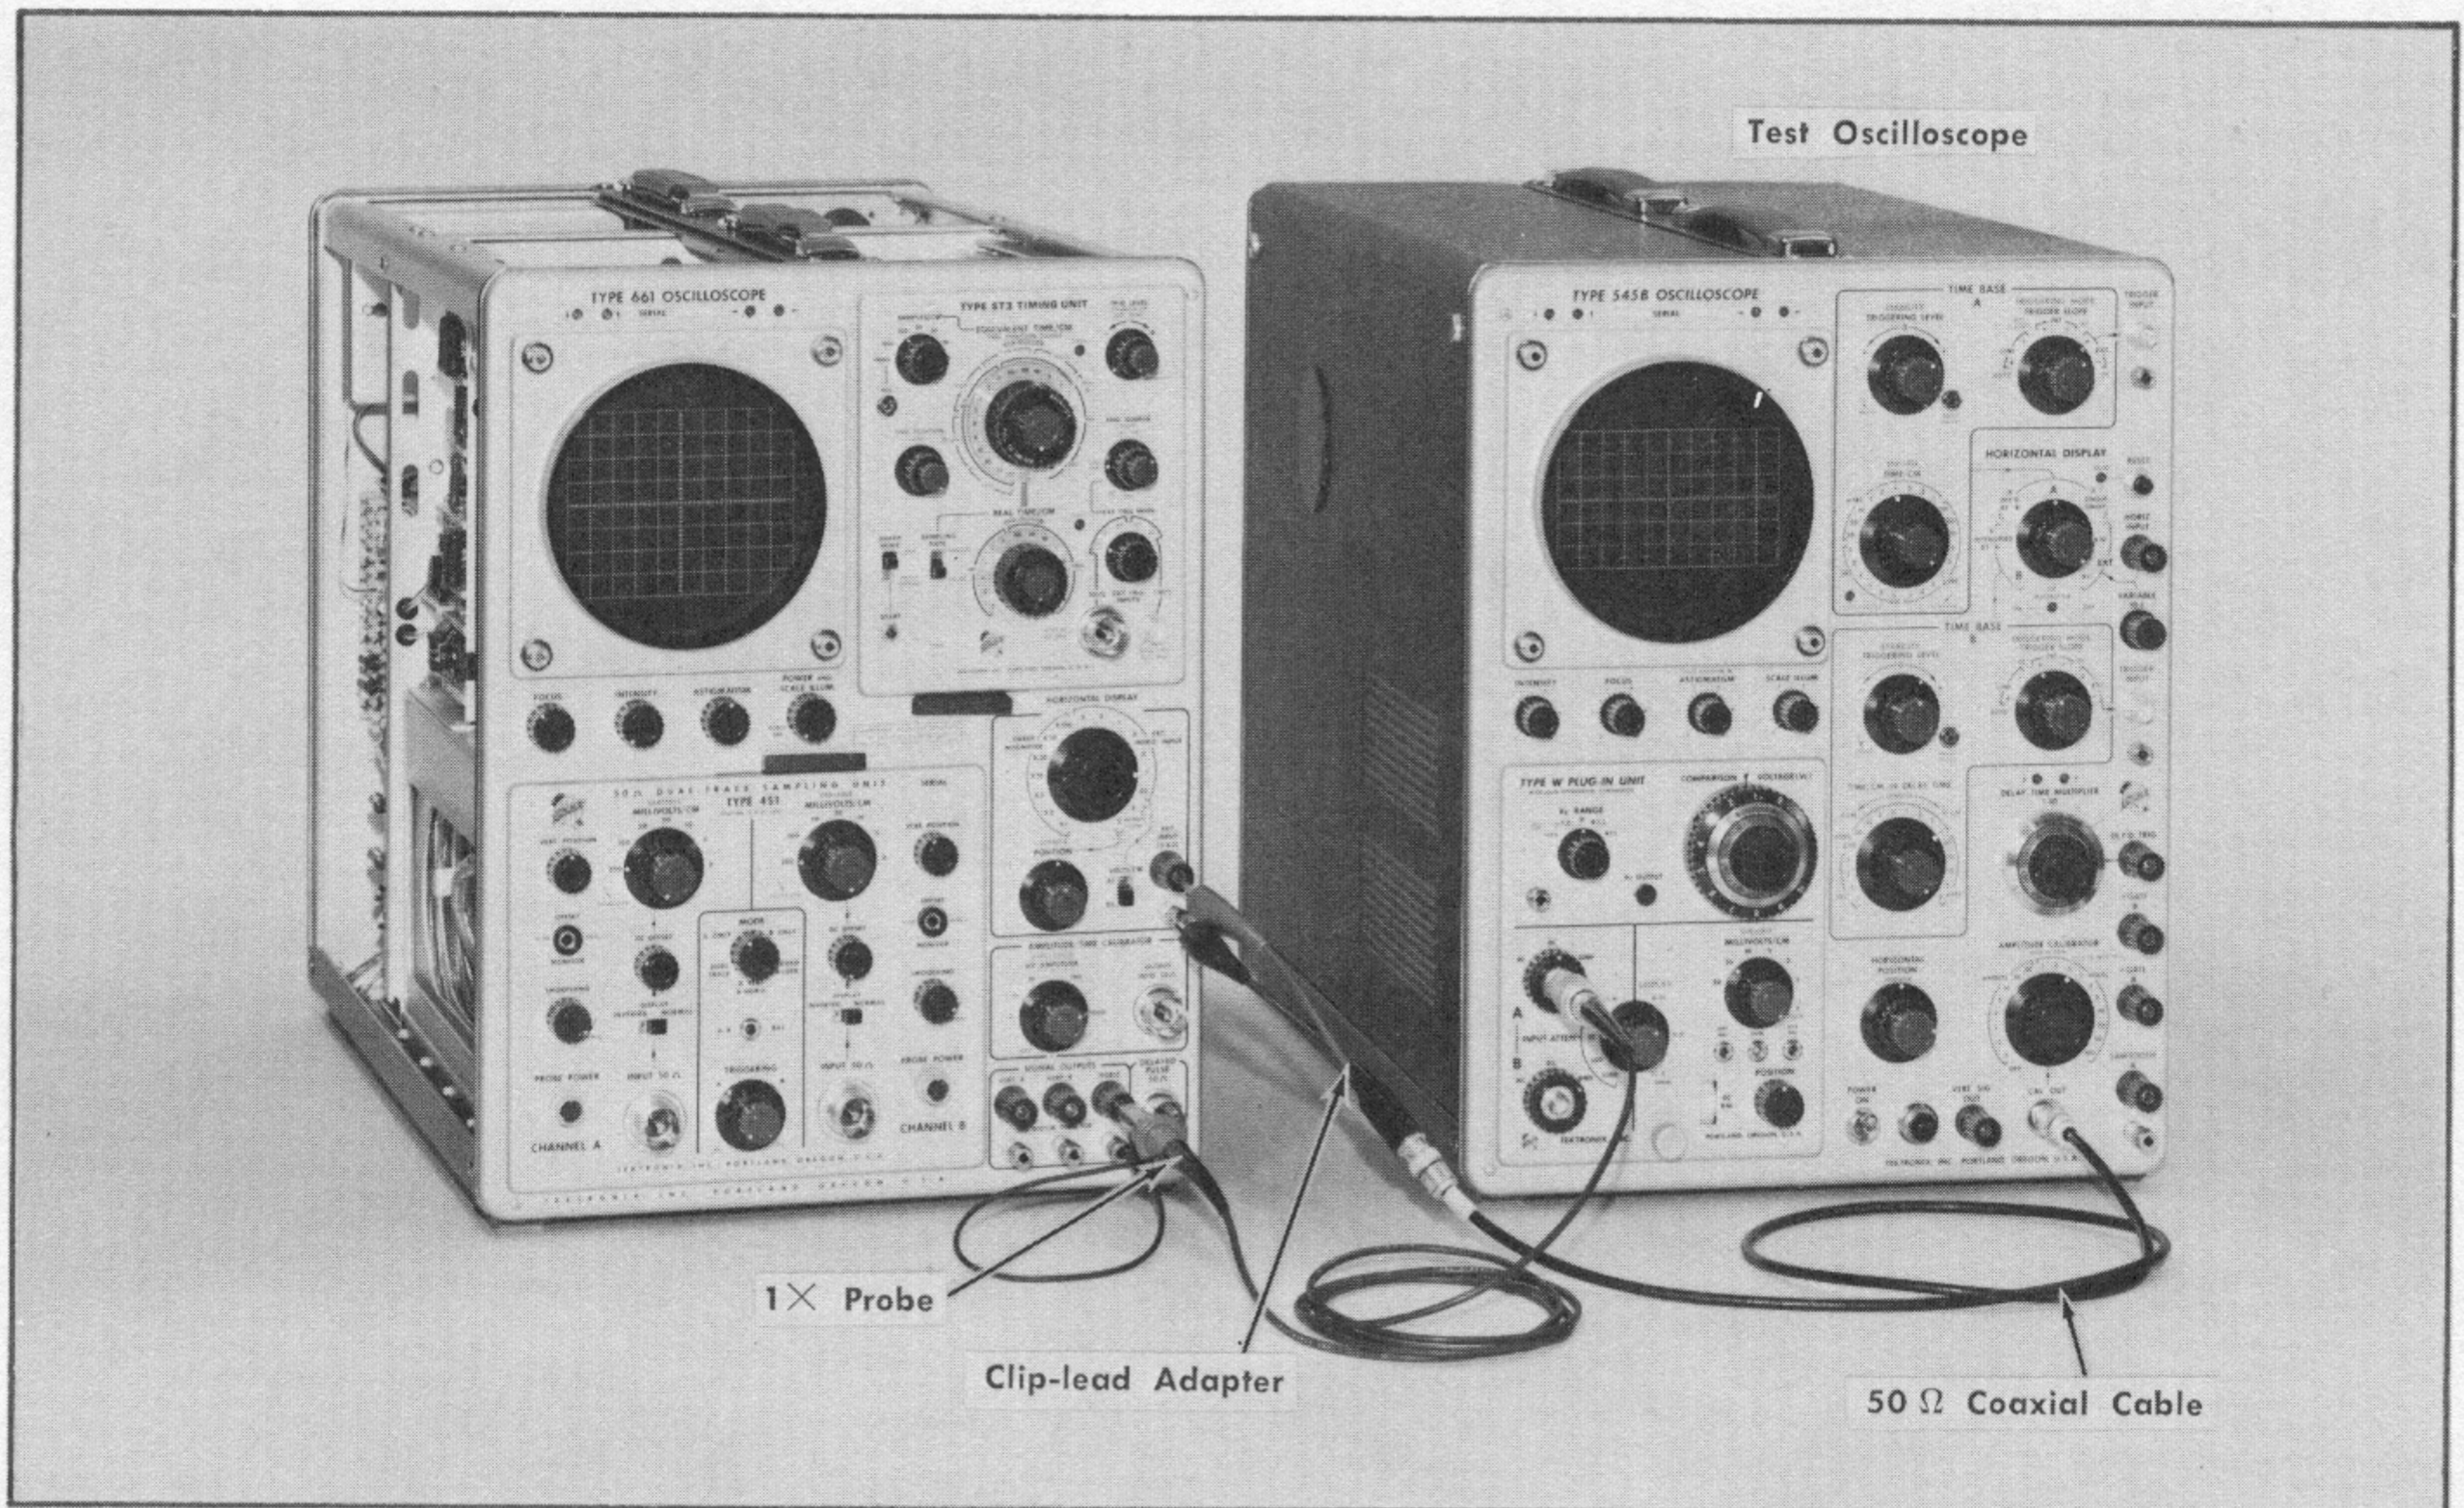

Fig. 6-37. Test equipment setup for step 28.
a. Use the equipment setup as shown in Fig. 6-37 and set the test oscilloscope Amplitude Calibrator to 0.5 Volts.